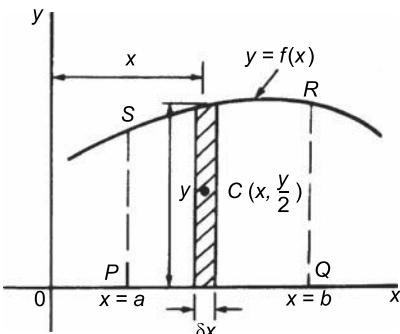

Figure 8.2
- (i) Figure 8.2 shows an area $PQRS$ bounded by the curve $y = f(x)$, the x -axis and ordinates $x = a$ and $x = b$. Let this area be divided into a large number of strips, each of width δx . A typical strip is shown shaded drawn at point (x, y) on $f(x)$. The area of the strip is approximately rectangular and is given by $y\delta x$. The centroid, C , has coordinates $\left(x, \frac{y}{2} \right)$